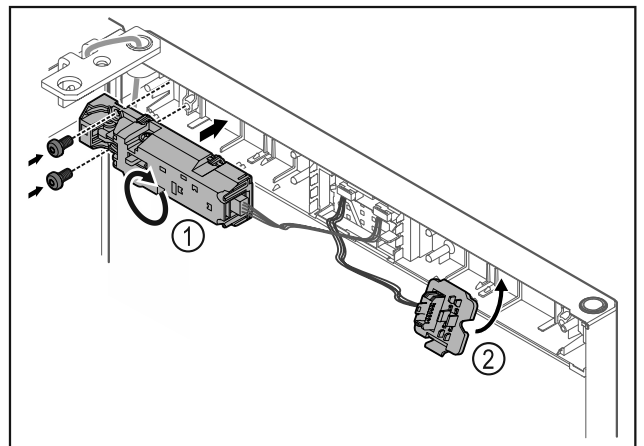

Fig. 13
- Turn the remote lock Fig. 13 (1) by 180° and fasten it on the opposite side.
- Engage the plug holder Fig. 13 (2) on the opposite side.\*